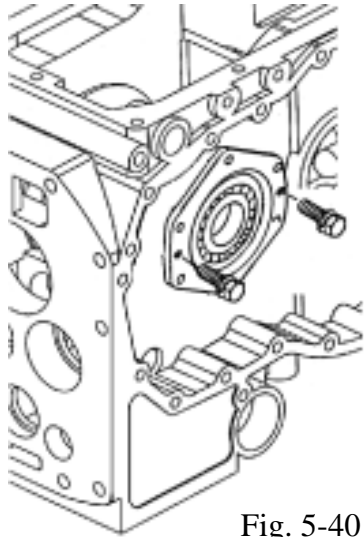

Fig. 5-40
a. Dismount diff-case (RH) and diff-case metal(LH) by installing push bolt as shown in Fig.5-40